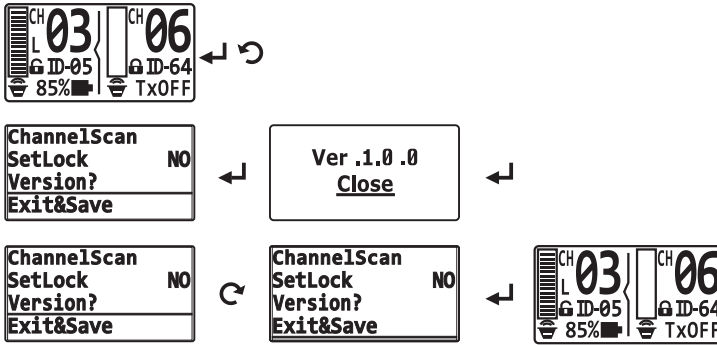

Fig. 27
9. Version? status, see Fig. 27: